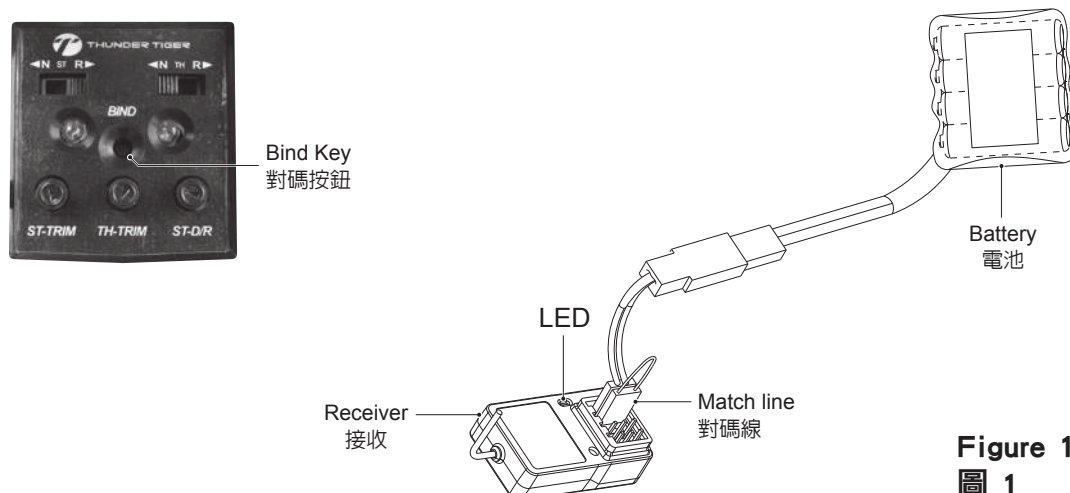

Figure 1
- Insert the matching lines to the channel BIND/CH3 port of the receiver. (Figure.1) °